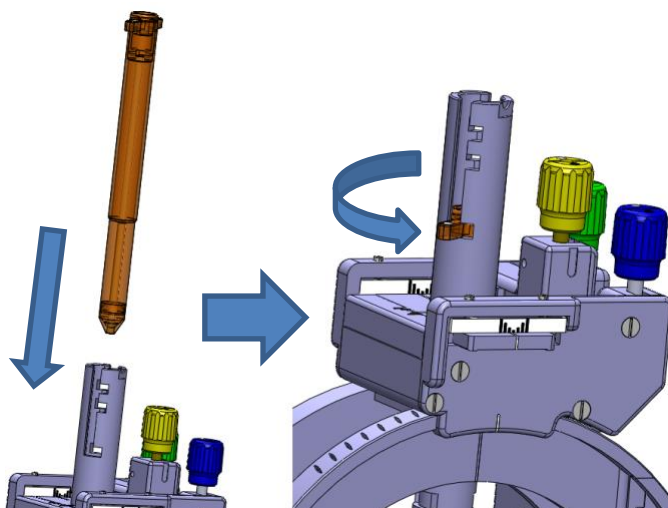

Figure 14: Inserting a Device Guide
5. Insert the desired Device Guide or replacement Targeting Cannula into the TC Support so that the tabs on the Device Guide or replacement Targeting Cannula fit into the long vertical slot on the TC Support. Then twist the Device Guide or replacement Targeting Cannula so the tabs engage the slots to lock it in position. **See Figure 14.**